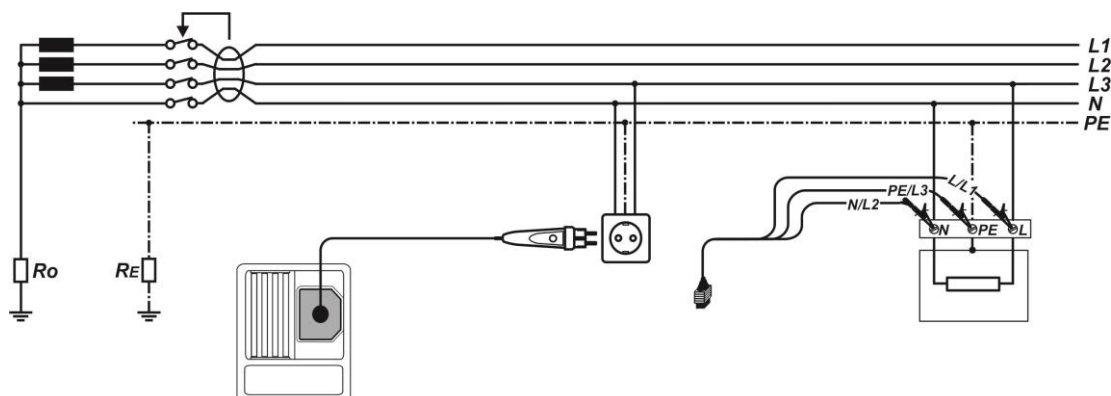

Figure 5.29: Connecting the plug test cable and the 3-wire test lead
- ❑ **Connect** test leads to the item to be tested (see *Figure 5.29*).
- Connect** test leads to the item to be tested (see Figure 5.29).
- Connect** test leads to the item to be tested (see *Figure 5.29*).
<ul style="list-style-type: none"> <li>❑ Select the RCD function using the function selector Switch.</li> <li>❑ Set sub-function to AUTO using .</li> <li>❑ Set test parameters (if necessary).</li> <li>❑ Connect test cable to the instrument.</li> <li>❑ Connect test leads to the item to be tested (see Figure 5.29).</li> <li>❑ Press the TEST key to perform the test.</li> </ul>	Start of test